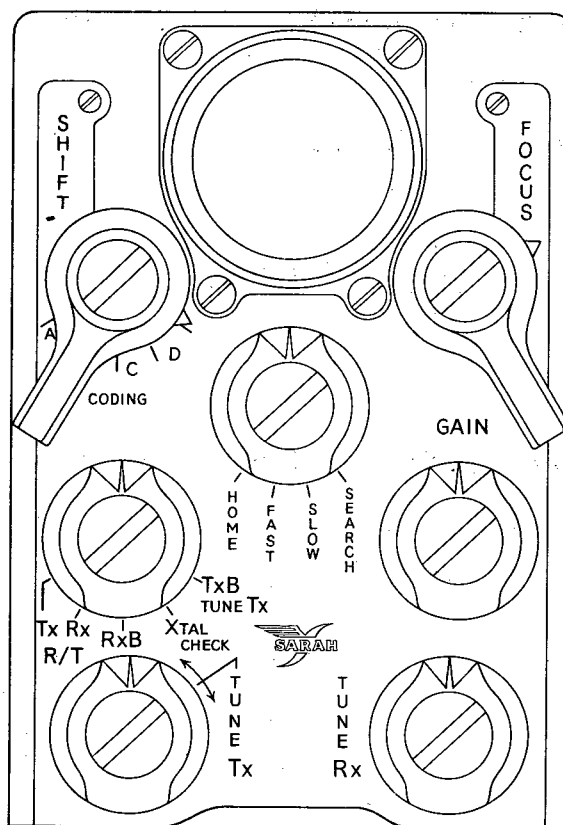

FIG.2 FRONT PANEL CONTROLS
- (c) Turn the left-hand (function) switch (Fig. 2) to the RX B position.